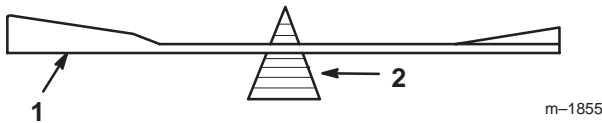

Figure 40
2. Check the balance of the blade by putting it on a blade balancer (Fig. 40). If the blade stays in a horizontal position, the blade is balanced and can be used. If the blade is not balanced, file some metal off the end of the sail area only (Fig. 38). Repeat this procedure until the blade is balanced.